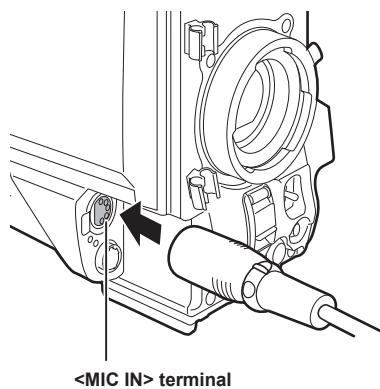

Fig. 3
**3** Connect the microphone cable to the <MIC IN> terminal on the camera. (Fig. 3)